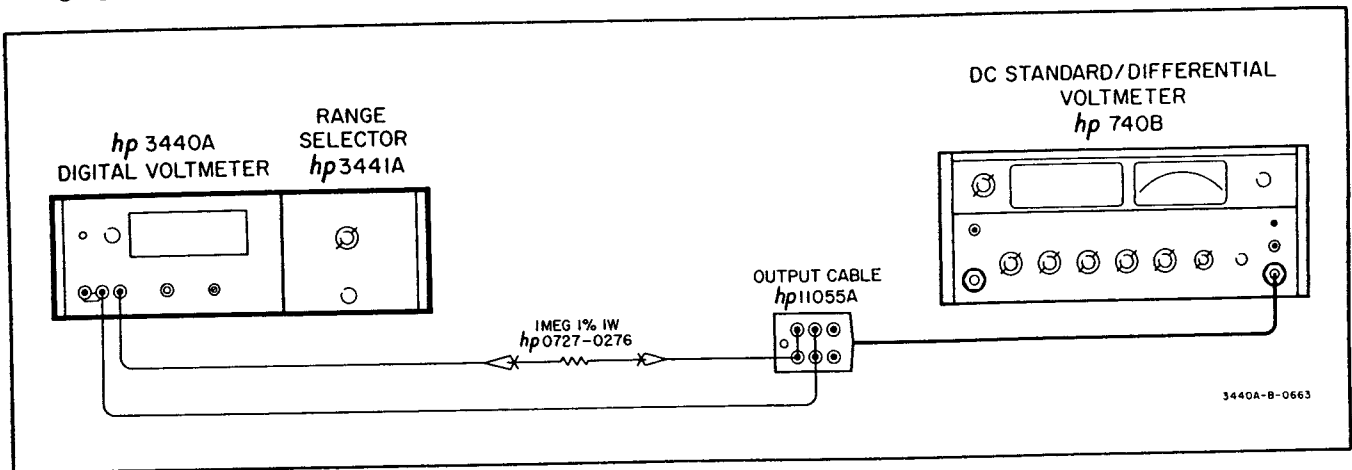

Figure 5-2. Input Impedance Check
- a. Connect Model 3440A as shown in Figure 5-2.